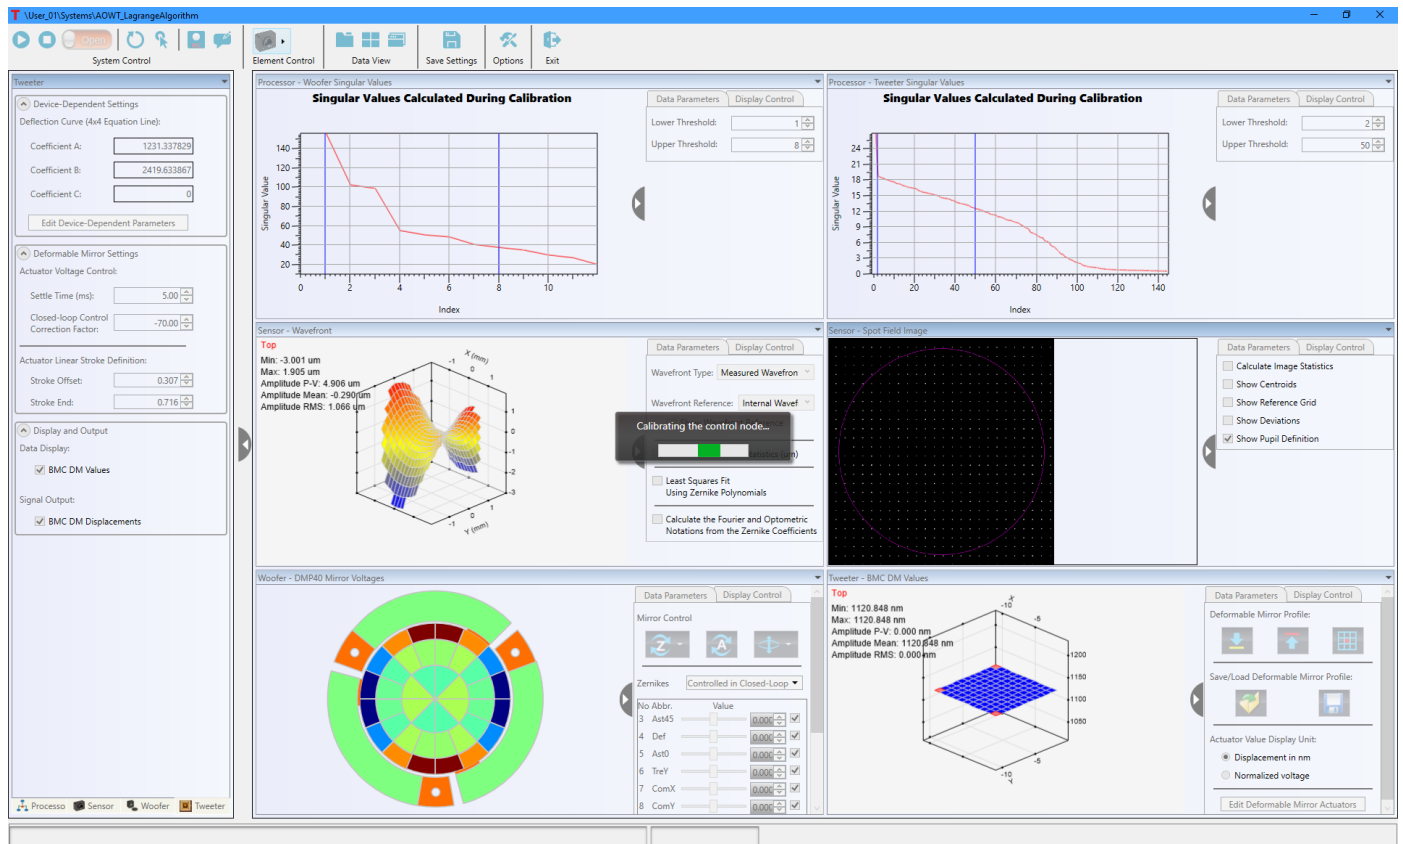

Figure 168 AOWT_LagrangeAlgorithm Calibration Process
- 2) After initiating the calibration, the user will see the calibration process displayed in Figure 168